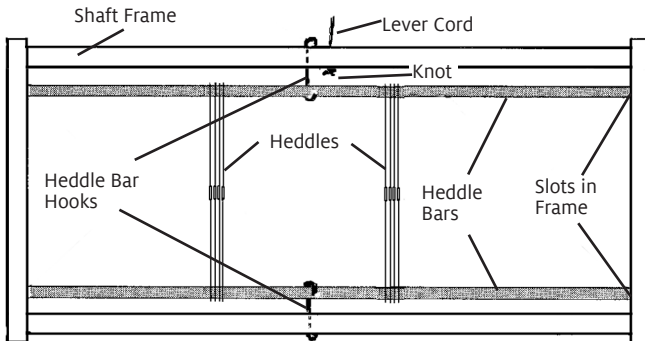

FIGURE 3: HEDDLES / SHAFTS
7. Install the heddles (see Figure 3 to learn the names of the shaft parts). Remove the shafts from the bottom of the castle. Lay two heddle bars on a flat surface. Count out the heddles for the first shaft, and carefully transfer them in a single bunch from the holding bar or cord
up and through the hole drilled through the top beam of the shaft frame (see Figure 3). Pull the lever cord until the knot is snug against the underside of the shaft frame.